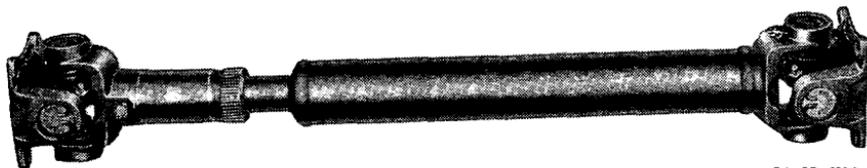

FIGURE 68.—Front axle propeller shaft assembly.
**25. Description** (figs. 68 and 69).—The propeller shafts are of the two joint, needle bearing type.